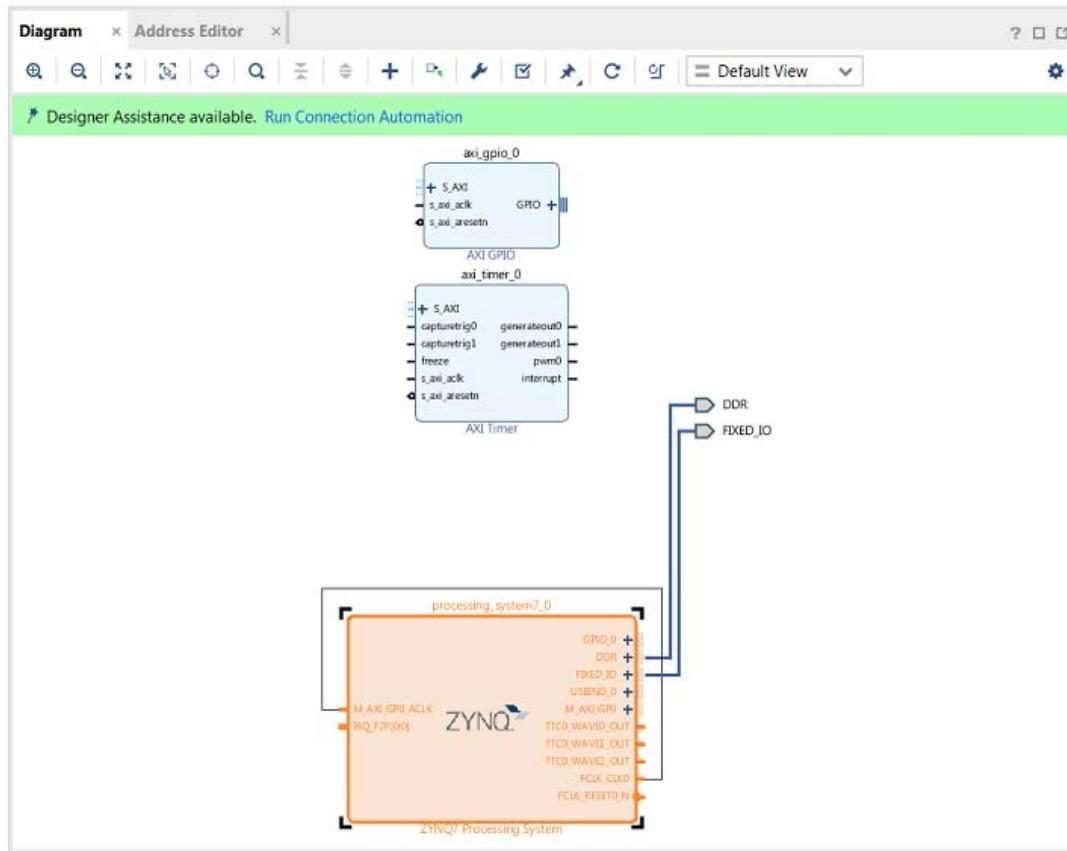

Figure 3-3: ZYNQ7 Processing System IP
- ~~14. Click **OK** to accept the changes to the ZYNQ7 Processing System IP. The Diagram looks like Figure 3-3.~~